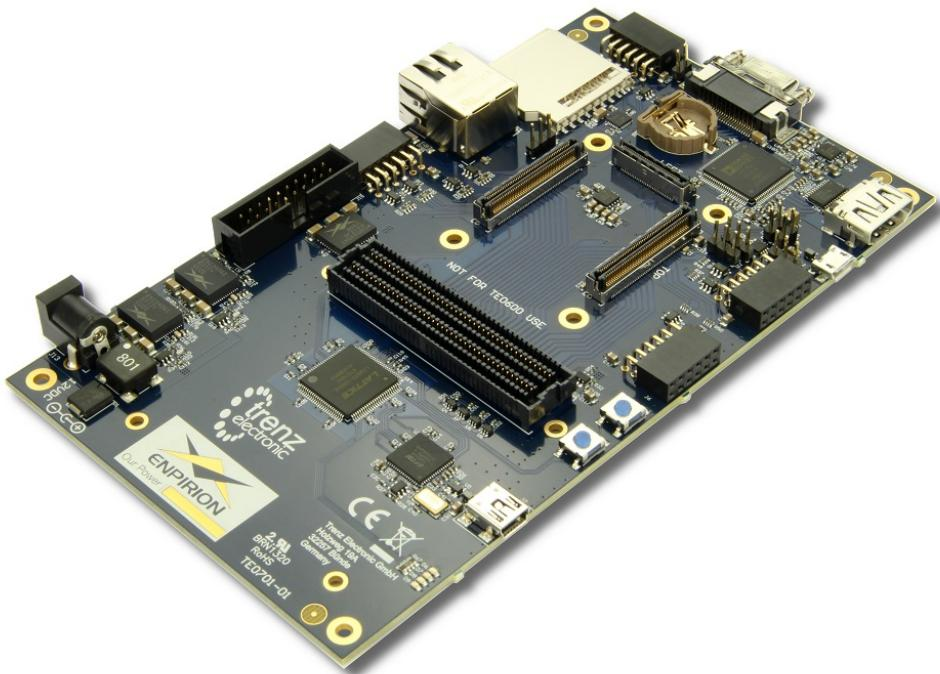

Figure 1: TE0701 (REV 01; only a limited number is released - a slightly modified REV 02 is shipped to customers).
- i Additionally, the TE0701 carrier board is equipped with a second mini USB port (J7; see (19) in Figure 1 of TE0701 Carrier Board User Manual) that is connected to a "USB to multi-purpose UART/FIFO IC" from FTDI (FT2232HQ) and provides a USB-to-JTAG interface between a host PC and the TE0701 carrier board and the TE0720 Zynq module, respectively. Because it acts as a USB function device, no power switch is required (and only a ESD protection must be provided) in this case.